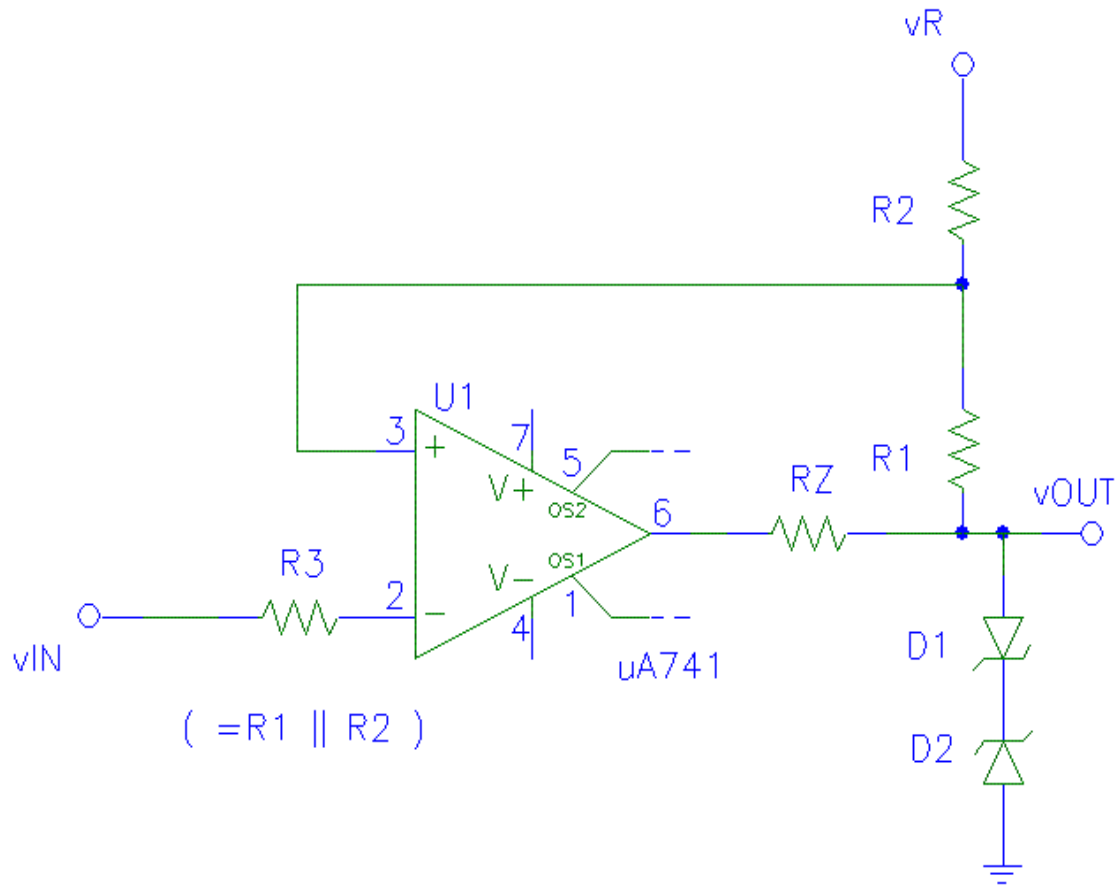

Figure 2 - Inverting Schmitt Trigger
b. An op amp with an open loop gain  $AV$  of 14,000 is used to construct the circuit in figure 2. The threshold levels desired are  $3 \pm 0.2V$ .
- (1) Find the ratio  $R2/R1$ . What physical conditions determine the choice of the individual resistances?
- (2) Find the loop gain. Does it satisfy the requirement for regenerative switching?